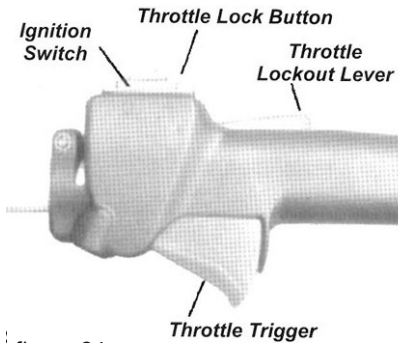

figure 24
1. Set the throttle trigger to "Fast idle" as follows (Figure 24):